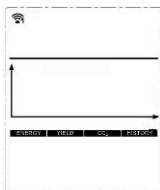

Fig 4-8 Wireless Connection Adjust
- 2) Hold “right” key of Solar Eye to go into connection state as Fig 4-8. At this time, the channel Solar Bee stays in will show on top left corner on Solar Eye, and press “left” & “right” key to choose channels Solar Bee stays in. For example,  icon indicates Solar Bee stays in channel 1.